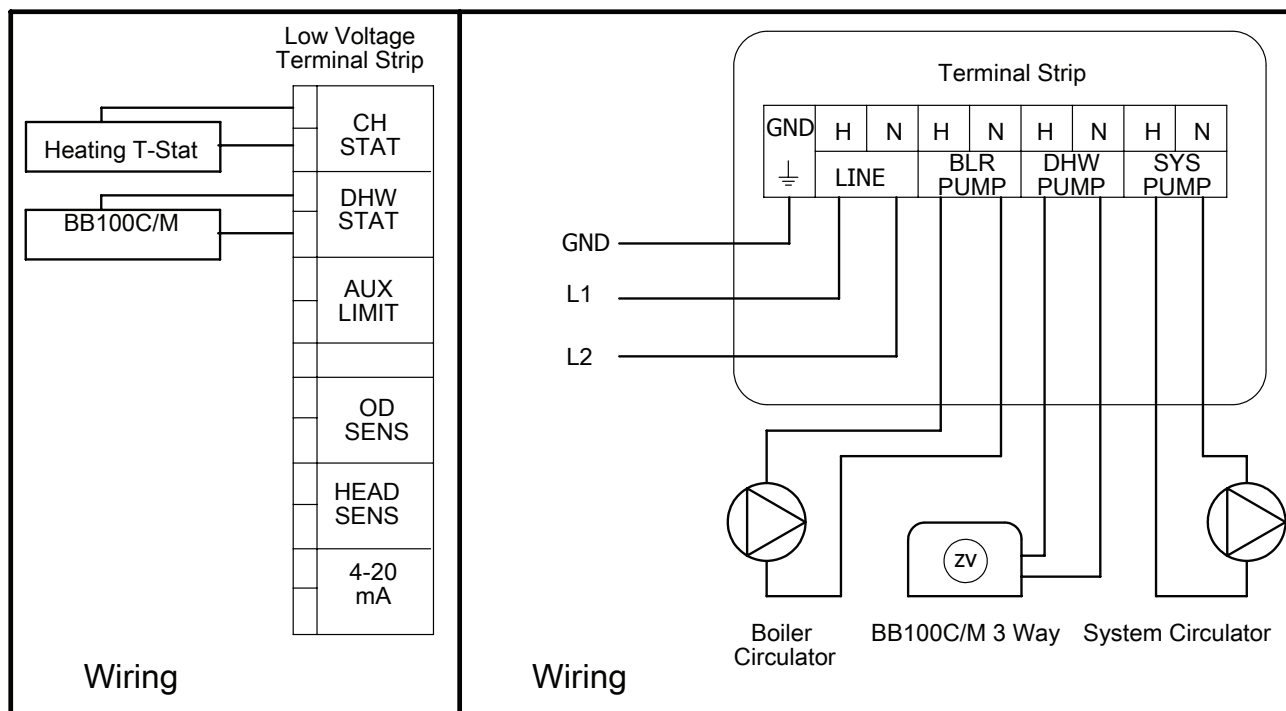

FIGURE 7.5: Wiring BB100C to Boiler equipped with Sola
6) Connecting BB100C to Sola Equipped boilers (Figure 7.5):